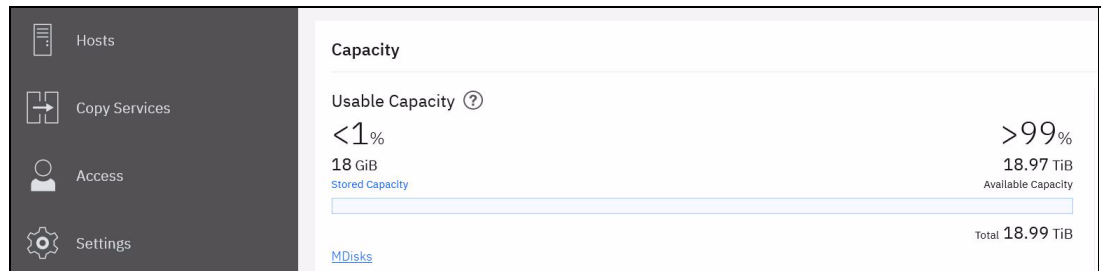

Figure 9-19 Usable Capacity
*Usable Capacity* (see Figure 9-19) indicates the total capacity in all storage on the system. Usable capacity includes all of the storage the system can be virtualized and assigned to pools. Usable capacity is displayed in a bar graph and is divided into three categories: Stored Capacity, Available Capacity, and Total.